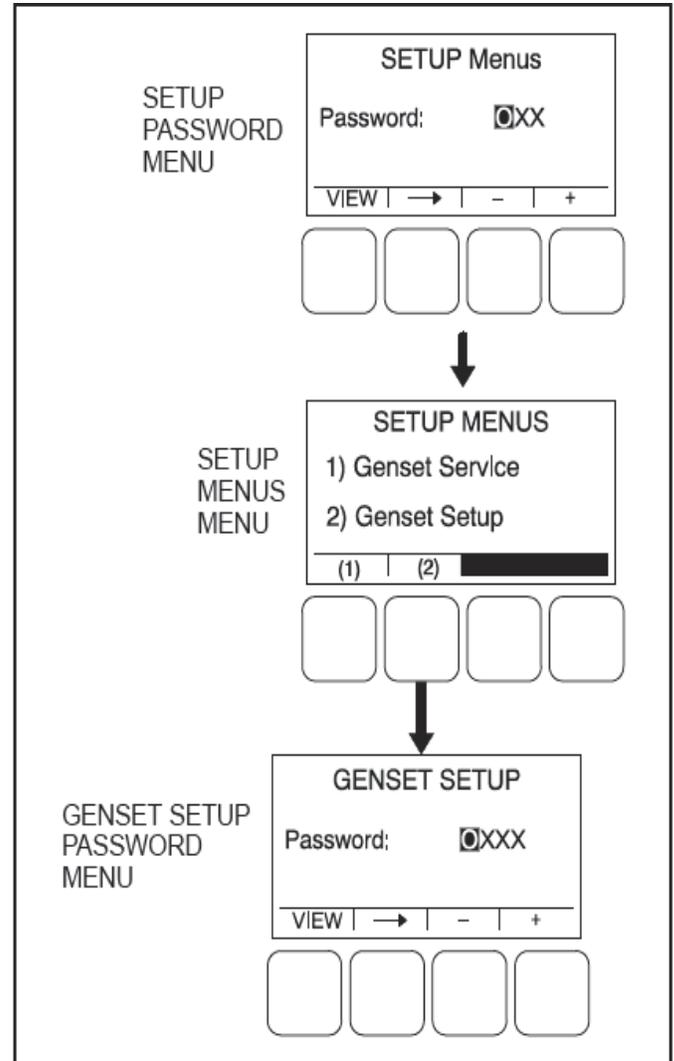
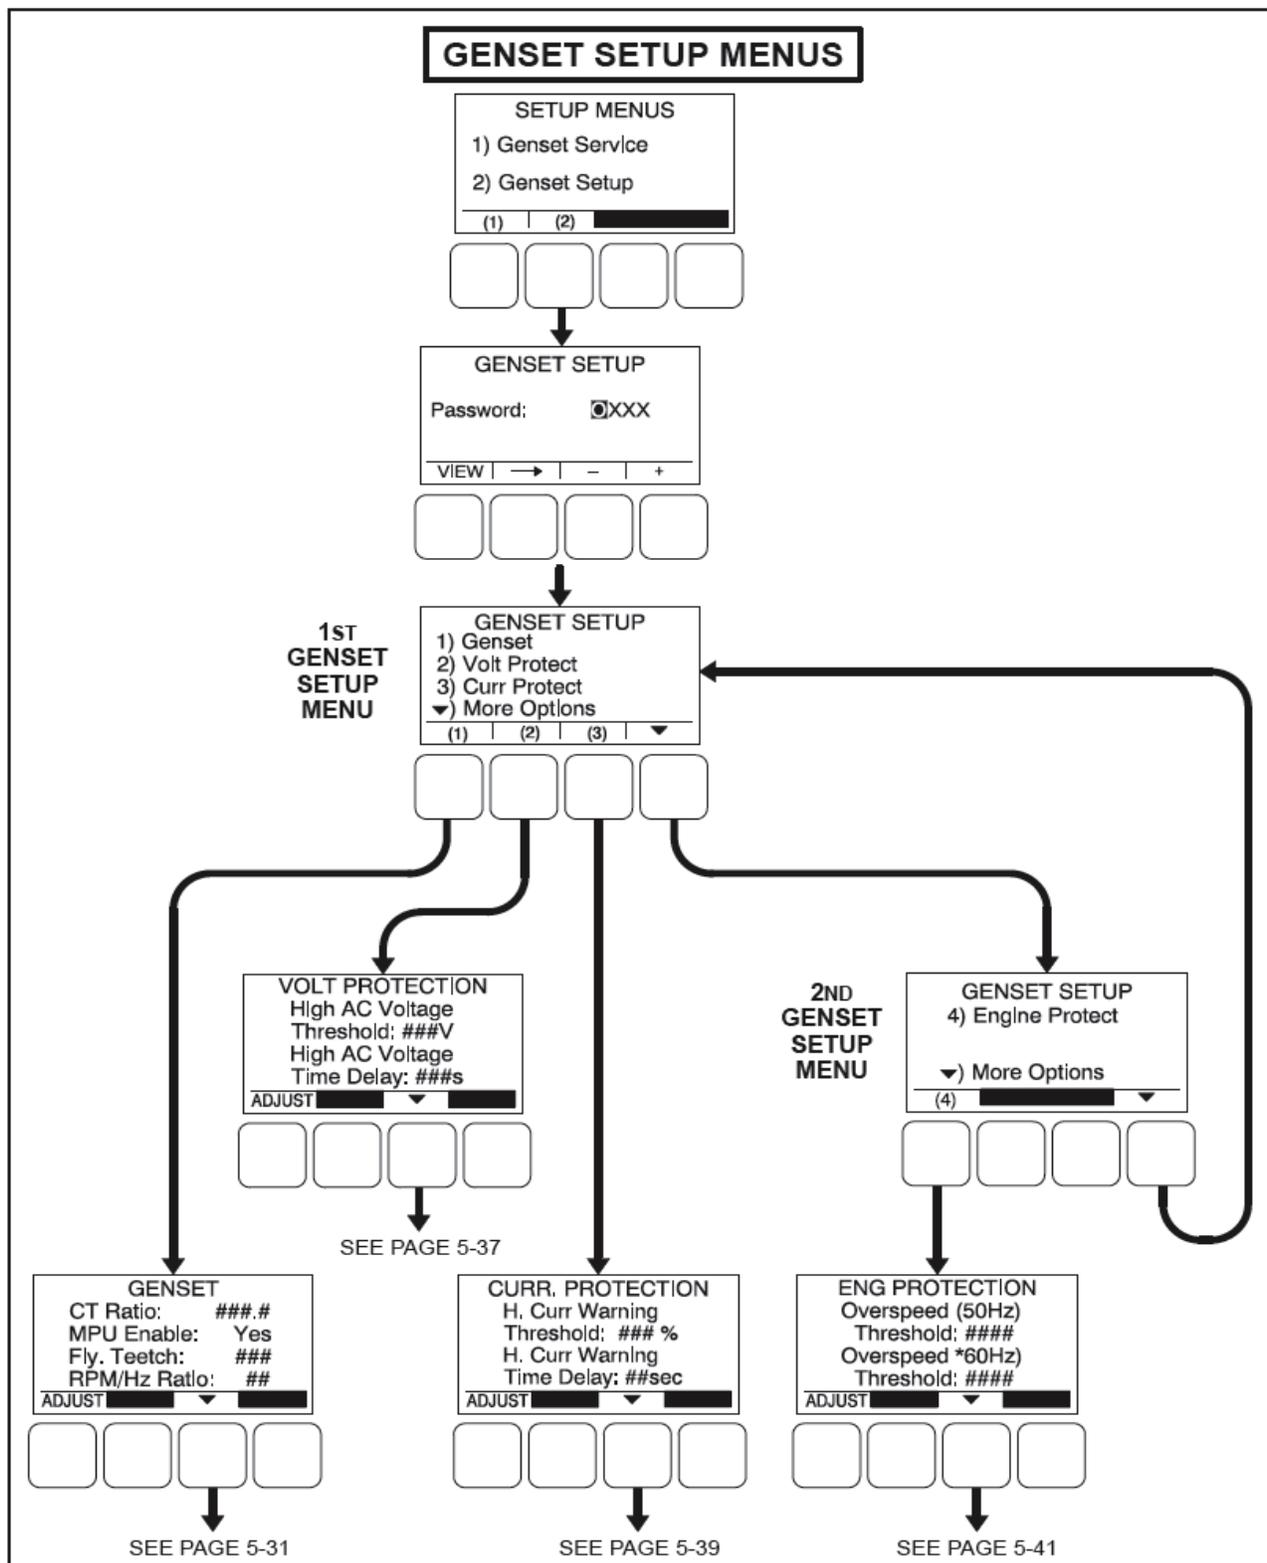
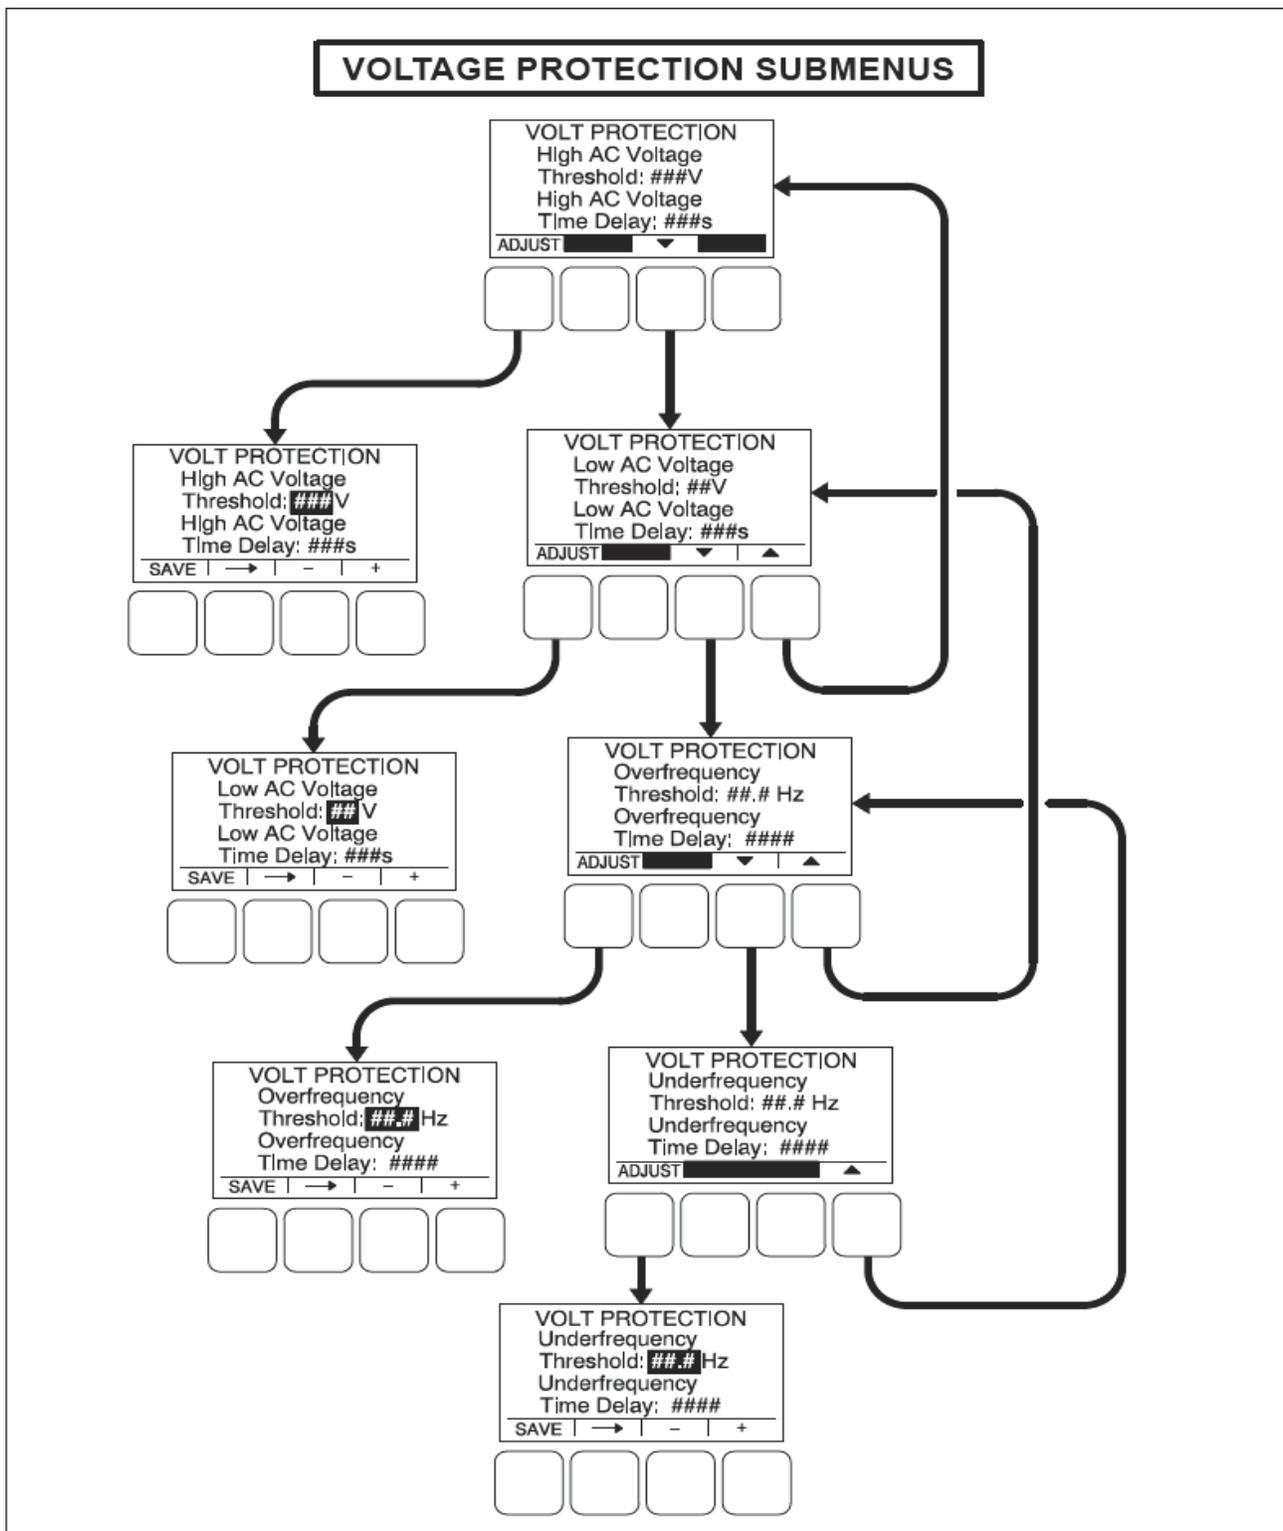

FIGURE 5-12. SETUP PASSWORD MENUS
FIGURE 5-13. GENSET SETUP MENUS
FIGURE 5-15. VOLTAGE PROTECTION SUBMENUS
Figure 5-13 is a block representation of the two Genset Setup menus that are available after the correct password has been entered or the View button is pressed in the Genset Setup Password menu. The Genset Setup menus provide access to the following categories. The first Genset Setup Menu provides access to the following menus:
Adjusting the Genset Setup menus is restricted to service personnel and a password must be entered to modify these menus. Once the Genset Setup button (2) is selected on the Setup Menus menu (see Figure 5-12), the Genset Setup Password menu is displayed. When the Genset Setup Password menu is displayed, the first numeric character (0) is highlighted (see Figure 5-13).
The Genset submenus are available by pressing the **(1)** button on the first Genset Setup menu (see Figure 5-13).
The Voltage Protection submenus are available by pressing the **(2)** button on the first Genset Setup menu (see Figure 5-13). Figure 5-15 is a block representation of the four Voltage Protection submenus that are available.
The Current Protection submenus are available by pressing the **(3)** button on the first Genset Setup menu (see Figure 5-13). Figure 5-16 is a block representation of the two Current Protection submenus.
The Engine Protection submenus are available by pressing the **(4)** button on the second Genset Setup menu (see Figure 5-13).